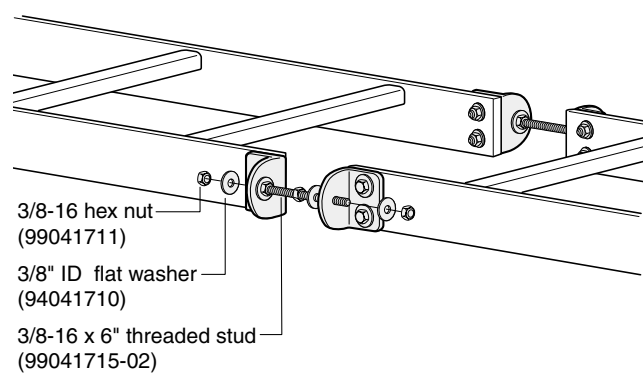

Figure 3
3. Insert the 6" threaded stud through the hole in one of the Tie Bolt brackets. If the gap between the ladder ends is greater than 1", assemble a 3/8" ID flat washer and a 3/8-16 hex nut and then a second nut and washer onto the stud between the two Tie Bolt brackets to be connected. Insert the end of the stud through the hole in the second Tie Bolt bracket. (Figure 3)
4. Adjust the position of the stud so that it is centered over the gap between the Ladders. Assemble a 3/8" ID flat washer and 3/8-16 hex nut to each end of the stud and tighten all nuts securely. (Figure 3)